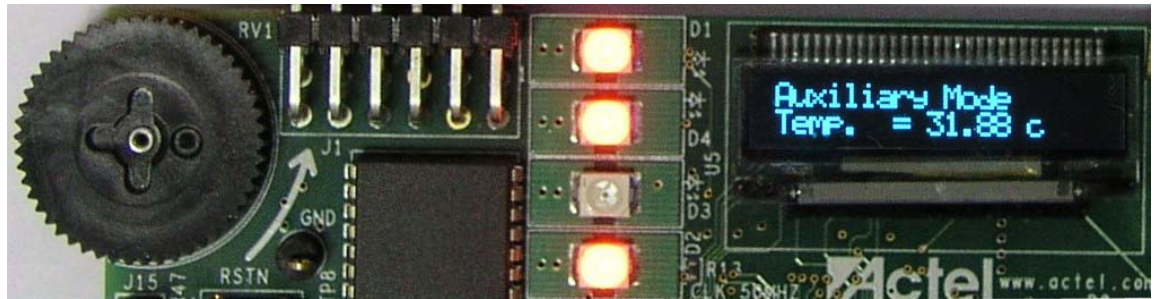

Figure 2-14 · Auxiliary Mode – External Temperature from Thermistor at AT4 Channel
- Press SW3 again to see the external temperature measurement from the Thermistor at the AT4 channel (Figure 2-14).